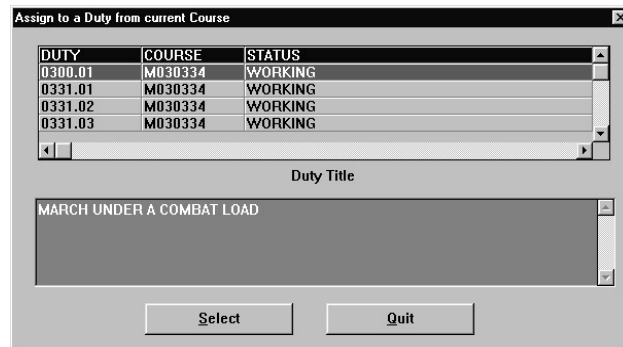

Figure 6-41. Assign to a Duty From Current Course
- (1) Click on **Yes**. The Assign to a Duty from Current Course selection list box (Figure 6-41) opens.